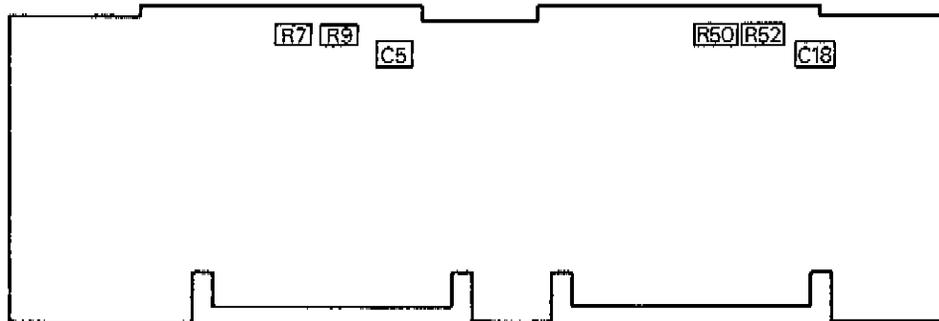

Figure 5-15 A33 Adjustment Locations
7. Set the 3702B BB POWER to −24dBm (−23dBm for 3716A Opt 010). Adjust 3717A A33R52 for a reading of 0 on the 3702B IF/BB LEVEL meter. (See Figure 5-15 for Adjustment Locations.)
8. Set the 3717A I/O SELECT to VIDEO NORM. Adjust 3717A A33R50 for a reading of 0 on the 3702B IF/BB LEVEL meter. (See Figure 5-15 for Adjustment Locations.)